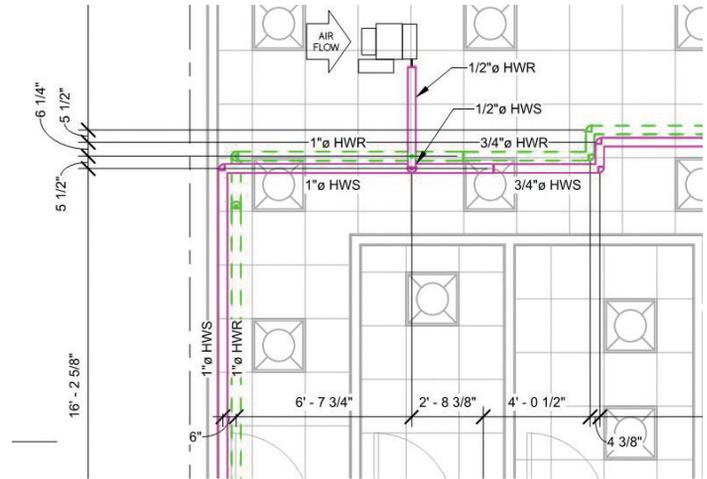

Figure 2: Mechanical dimensional sheet
- When the coordination is complete, shop drawings will be created with dimensional and elevation information (see Figures 2 and 3). These shop drawings are accurate and can be used in the field during construction.